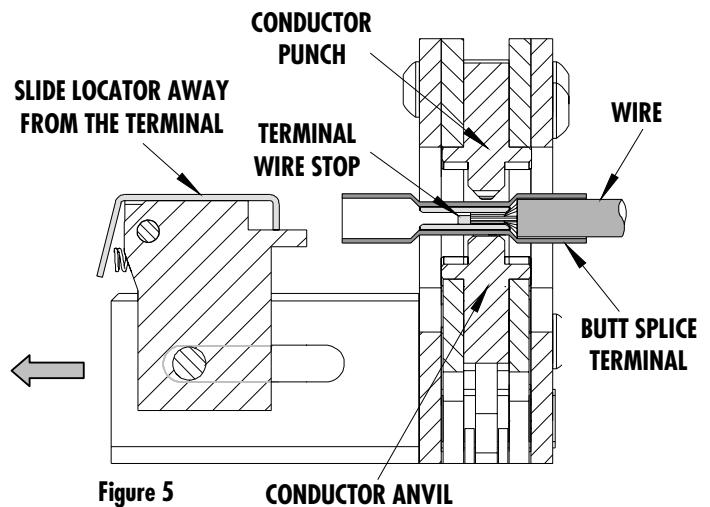

Figure 5
When crimping one end of a butt splice, loosen the locator knob and slide locator all the way out away from crimp jaws. When crimping the second end of a butt splice the locator assembly must be removed. See Figure 5.
3. Make certain all pins; pivot points and bearing surfaces are protected with a thin coat of high quality machine oil. Do not oil excessively. This hand tool was engineered for durability but like any fine piece of equipment, it requires cleaning and lubrication for maximum service life of trouble free operation. Use light oil such as 30 weight automotive at the oil points shown in Figure 5. Lubricate every 5,000 crimps or 3 months to significantly enhance the tool life.